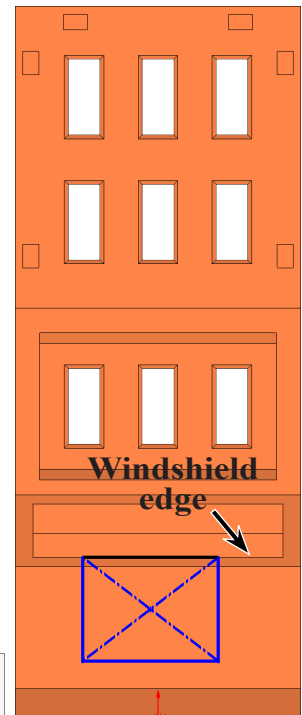

Fig. 66
Step 4. Sketch center rectangle with top edge coincident with bottom front edge of windshield, **Fig. 66**.